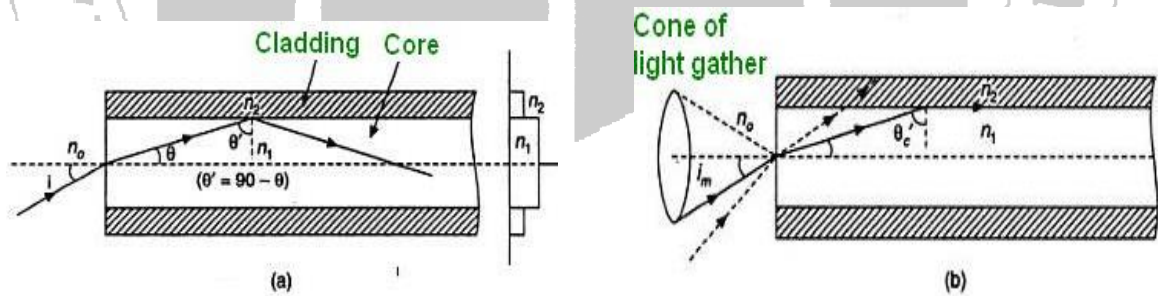

Figure 3
Therefore, for light to be propagated within the core of optical fiber as guided wave, the angle of incidence at core-cladding interface should be greater than θ'_c . As i increases, θ increases and so θ' decreases. Therefore, there is maximum value of angle of incidence beyond which, it does not propagate rather it is refracted in to cladding medium (fig: 3(b)). This maximum value of i say i_m is called maximum angle of acceptance and $n_0 \sin i_m$ is termed as the numerical aperture (NA).